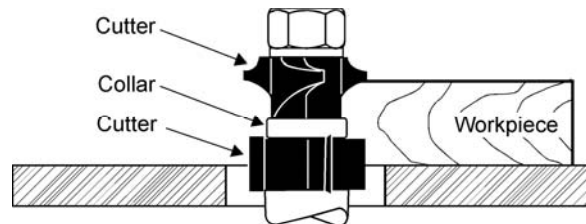

Figure 38
- Using the collar between the two cutters has the advantages and disadvantages of the first two procedures, and is frequently used where both edges of the work are to be molded, Figure 38.